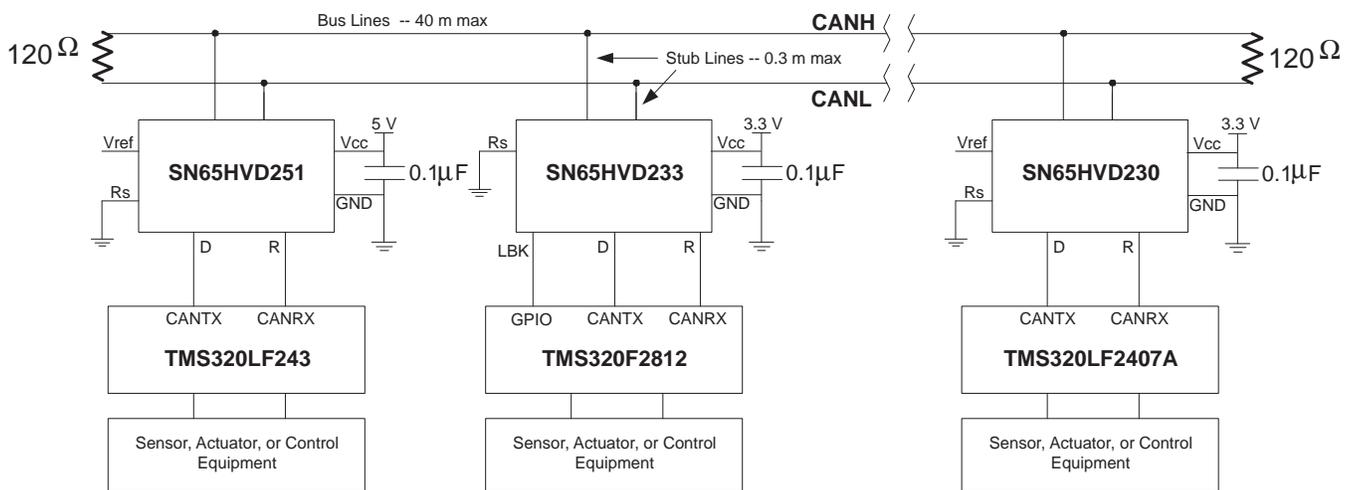

Figure 34. Typical SN65HVD233 Application
The loopback (LBK) function of the SN65HVD233 is enabled with a high-level input to pin 5. This forces the driver into a recessive state and redirects the data (D) input at pin 1 to the received-data (R) output at pin 4. This allows the host controller to input and read back a bit sequence to perform diagnostic routines without disturbing the CAN bus. A typical CAN bus application is displayed in Figure 34.
The High-Speed ISO 11898 Standard specifications are given for a maximum signaling rate of 1 Mbps with a bus length of 40 m and a maximum of 30 nodes. It also recommends a maximum un-terminated stub length of 0.3 m. The cable is specified to be a shielded or unshielded twisted-pair with a 120-Ω characteristic impedance (Z0). The Standard defines a single line of twisted-pair cable with the network topology as shown in Figure 34. It is terminated at both ends with 120-Ω resistors, which match the characteristic impedance of the line to prevent signal reflections. According to ISO 11898, placing RL on a node should be avoided because the bus lines lose termination if the node is disconnected from the bus.